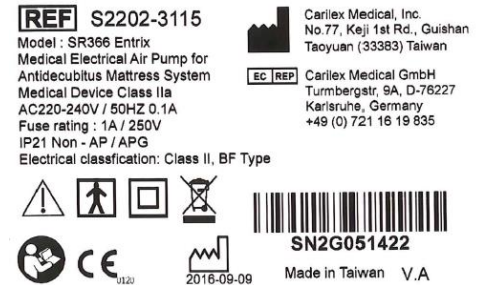

Fig: 18
9. Using a small, thin, flat-bladed knife, lift the corner of the information sticker (Fig: 18) on the bottom case and pull it away gently.
10. Reverse the procedure to install the new bottom case, ensuring that the information sticker (Fig: 18) is replaced securely using superglue if required and that the wire and silicone tube routing is exactly as found.